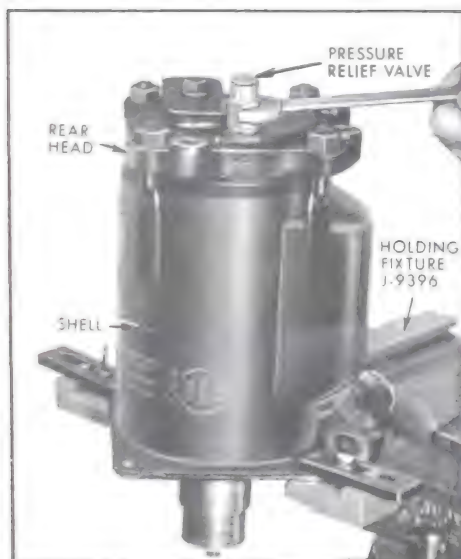

Figure 11-116—Removing or Installing Pressure Relief Valve
9. Attach J-9396 Holding Fixture to compressor and firmly mount assembly in vise. See Figure 11-116.